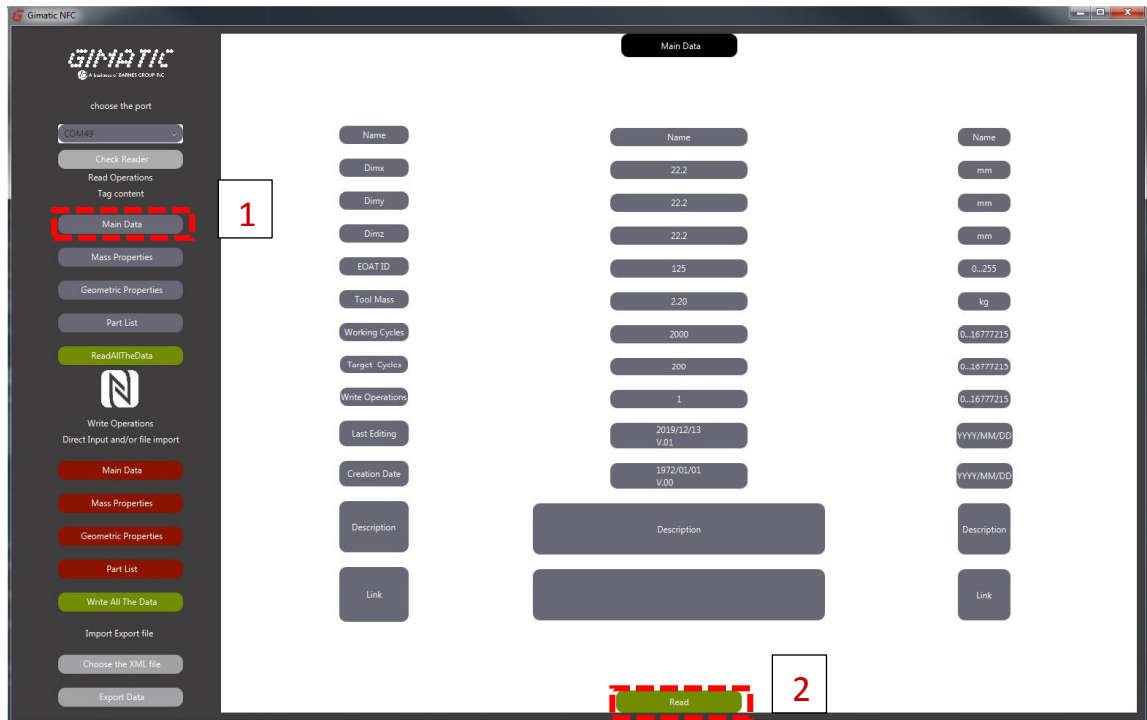

Figure 26
Select the desired category to be read, for example “Main Data” (1). Once the layout of the desired category is displayed on the right side of the application screen, the reading operation can be processed by clicking on the apposite button on the bottom of the screen(2) (Figure 26). Wait the waiting message to disappear once the operation has been completed.